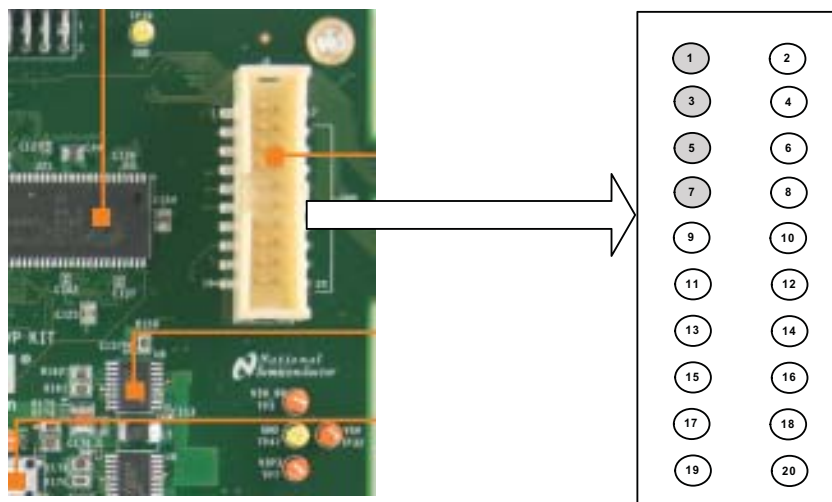

Figure 2-11 • J5 Connector on M1AF5-ADV-DEV-KIT Board
3. Connect the 22-pin cable supplied with Silicon Explorer II (for 18 channels, a clock,  $V_{CC}$ , GND, and clock GND) to the Silicon Explorer II hardware, and connect the first 4 channels to the pins in the J5 connector (Table 2-3 and Figure 2-11).